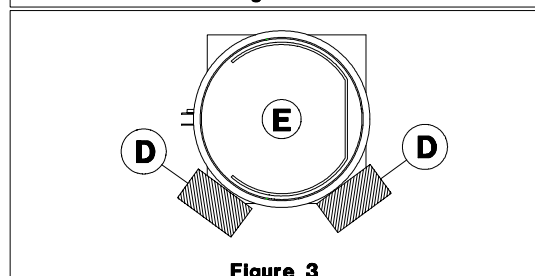

Figure 3
6. Place the two 5 Kg weights (D) onto the square plate at the bottom of the Charging Cylinder (E) directly opposite to each other. Refer to Figure 3.